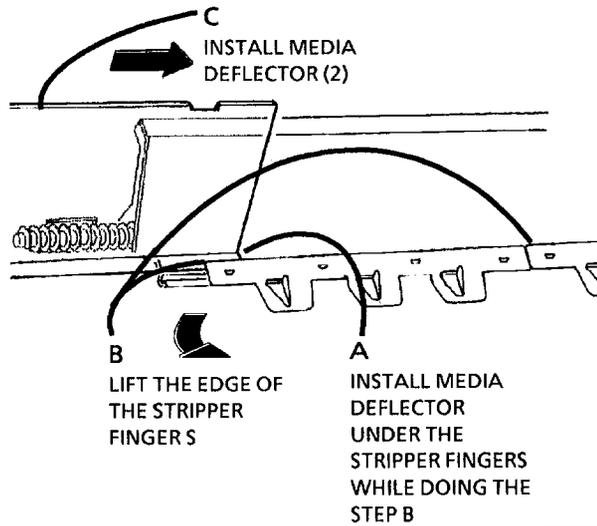

Figure 2. Install the Media Deflectors
1. (FIGURE 2): INSTALL THE MEDIA DEFLECTORS.